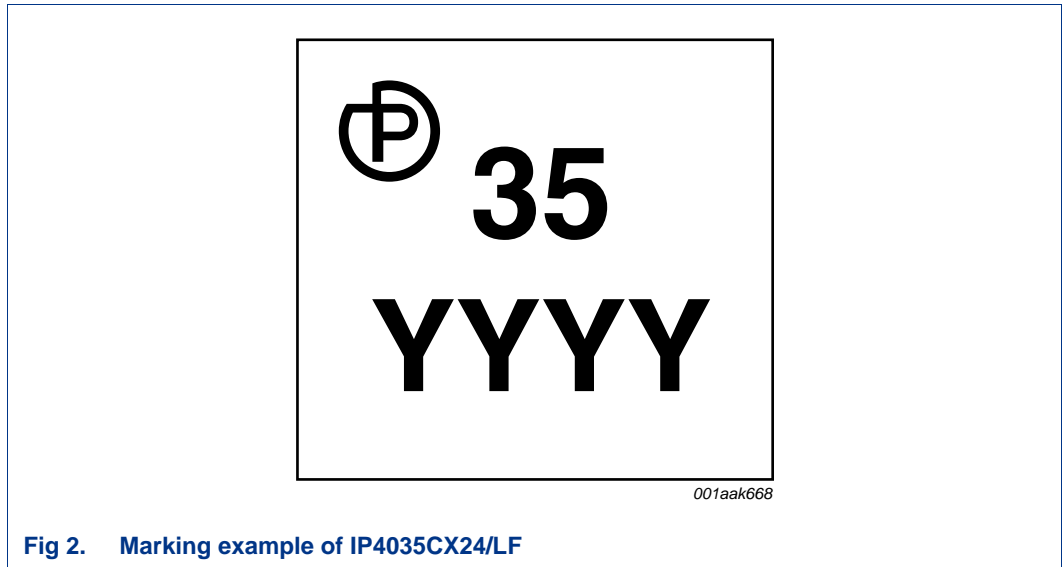

Fig 2. Marking example of IP4035CX24/LF
Figure 2 shows an example of IP4035CX24/LF. The 'YYYY' is the placeholder for the lot ID. This is a standard solder ball device with 500  $\mu\text{m}$  bump-to-bump pitch.
- The leading numbers are omitted if there is not enough space for all characters of the lot ID or product name. This is true in the example in Figure 2 where the leading two product name numbers are left out